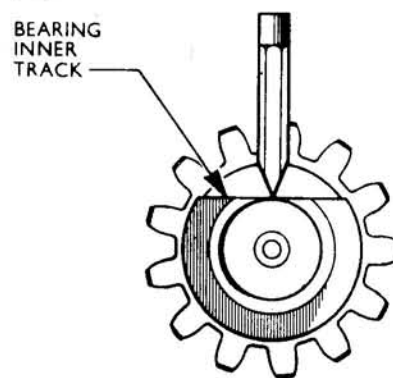

Fig. 142—Removing rear bearing from late type shaft (62—Fig. 140); refer to text.
Using suitable pullers, remove upper shaft front bearing (59) inner race and rollers. Slide the pinion (60) and upper shaft low gear (61) from shaft. On latest shaft (62), shoulder is too large to permit removal of bearing (63) inner race and roller assembly with pullers. If necessary to renew bearing (63) and shaft is otherwise serviceable, remove old bearing as follows; Break the roller retainer and grind a flat on bearing inner race (track), then break inner race with chisel as shown in Fig. 142. The inner race can then be easily removed from shaft rear journal. Press new bearing